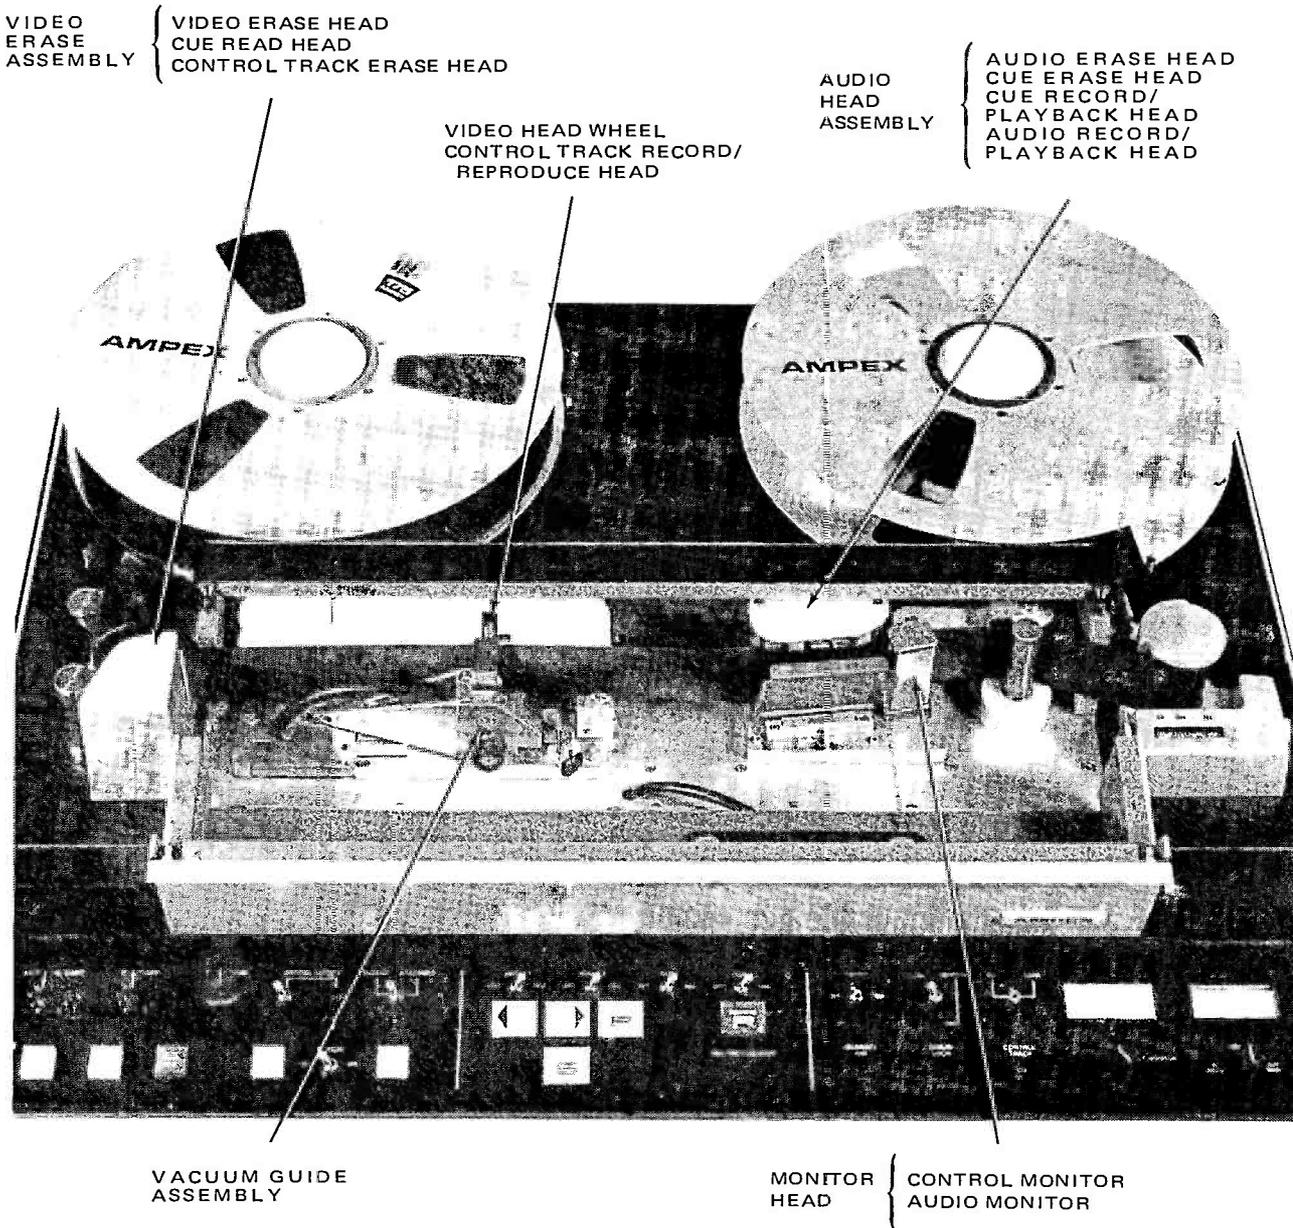

Figure 3-3. Video, Audio, Cue, Control Track, and Erase Heads
7. Clean the video erase assembly (see Figure 3-3); pull the erase assembly cover up and off to expose the heads.
8. Clean the audio and cue head (Figure 3-3).
9. Clean the audio and control track monitor heads if supplied with system (Figure 3-3).